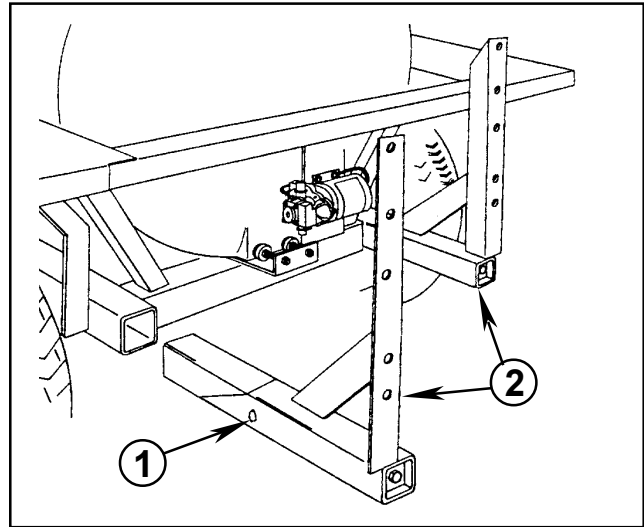

FIG. 3
1. Apply a heavy coating of grease to the tubes of the two Boom Mount Assemblies and insert them into the Vehicle Frame as shown in FIG 3.
2. Assemble Flow Monitor and Flow Monitor Backing Plate onto the Flow Monitor Mount using (4) 1/4" x 2" hex hd. cap screws and lock nuts.